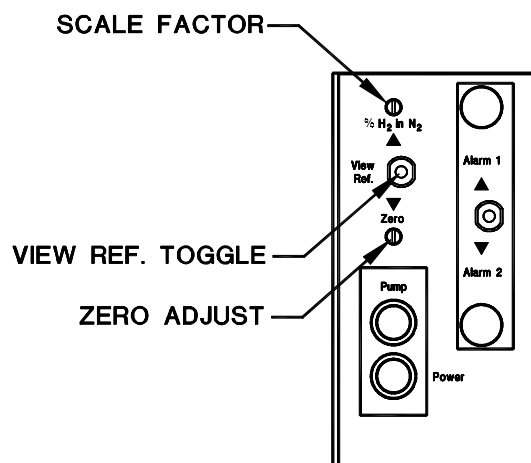

Figure 13: Gas Correction Factor Adjustment
- 2) Locate the View Ref. Toggle switch. See Figure 13.